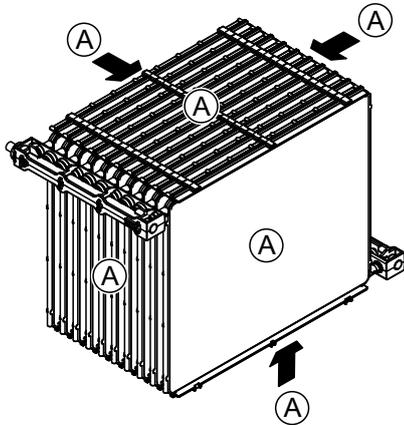

Fig. 16: Diaphragm surface
7. Check diaphragm surface "A" (see *Fig. 16*) of the humidifier insert for traces of dust, discolouration and check the duct for contamination and water residue.